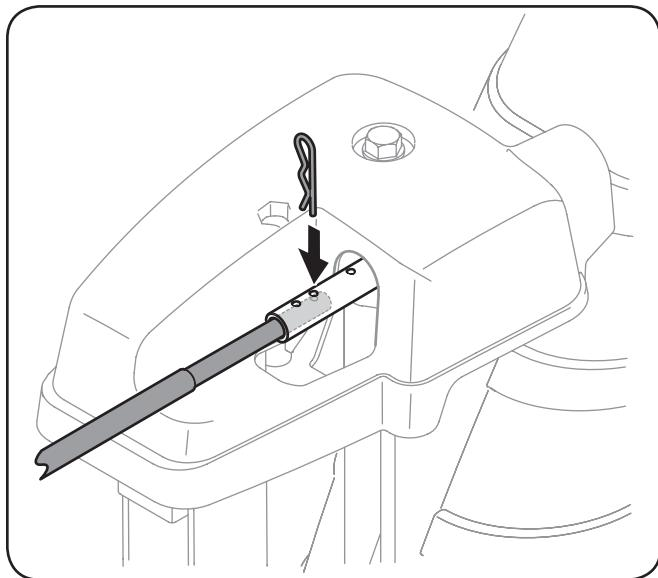

Figure 3-8
- Push the chute control rod toward the control panel until the hole in the rod lines up with the middle hole in the chute control input and insert the cotter pin. See Figure 3-8.